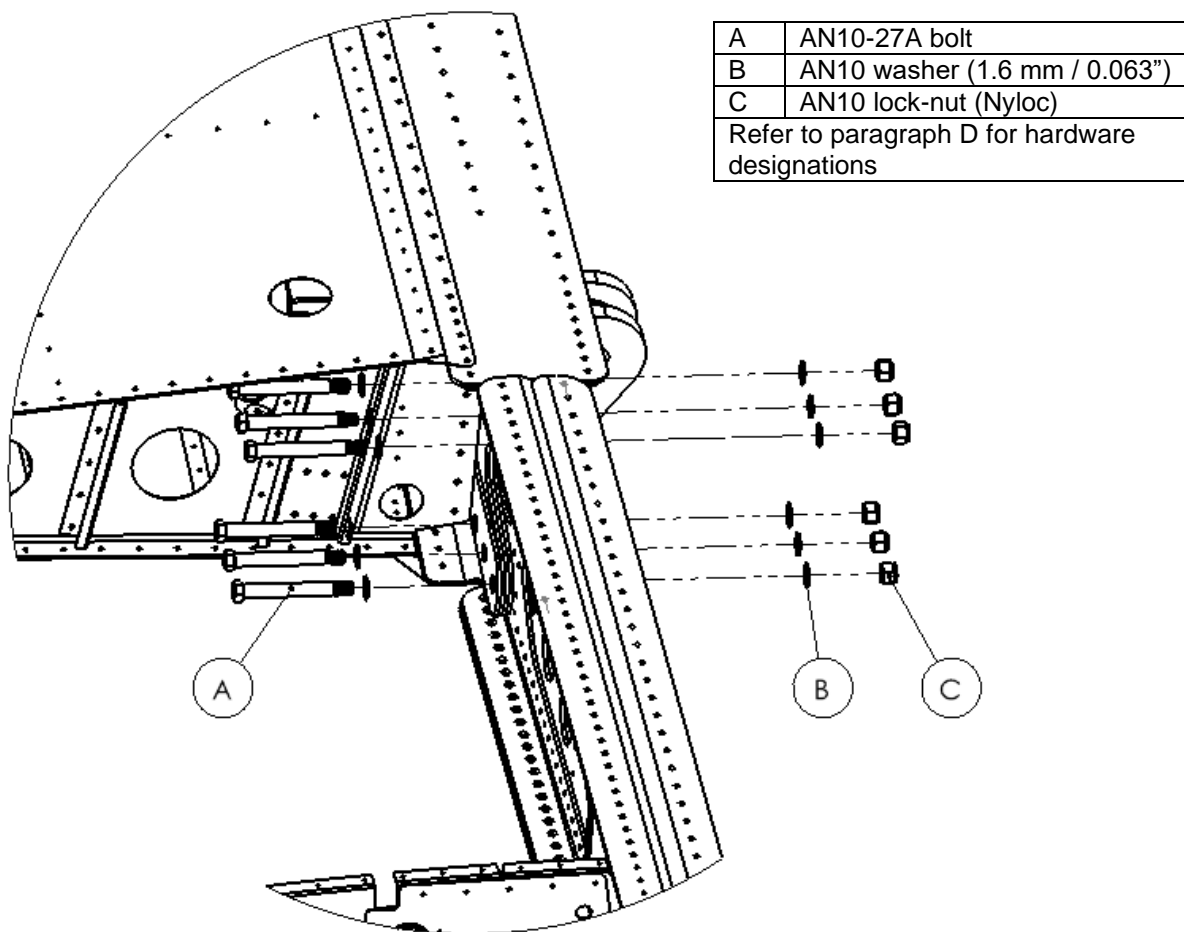

Figure 7: Front wing spar to fuselage connection.
- Tighten the main (front) spar bolts to the recommended value (refer to paragraph 1.5.2). Observe the correct placement of washers (refer to Figure 7). Note that the bolts are mounted with their heads facing the aircraft tail.